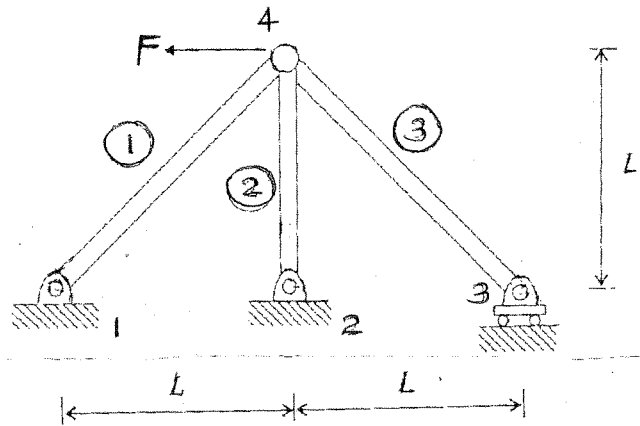

Figure Q3
b) The truss shown in Figure Q3 is subjected to a horizontal force  $F$  at node 4. Let all the members have the same stiffness  $EA$ . Find the displacement (in terms of  $F$ ,  $E$ ,  $A$  and  $L$ ) at node 4.